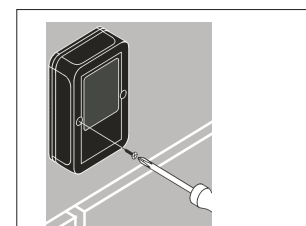

Fig. 8
- 8 - Fit the cover using the the screws supplied (Fig. 8).